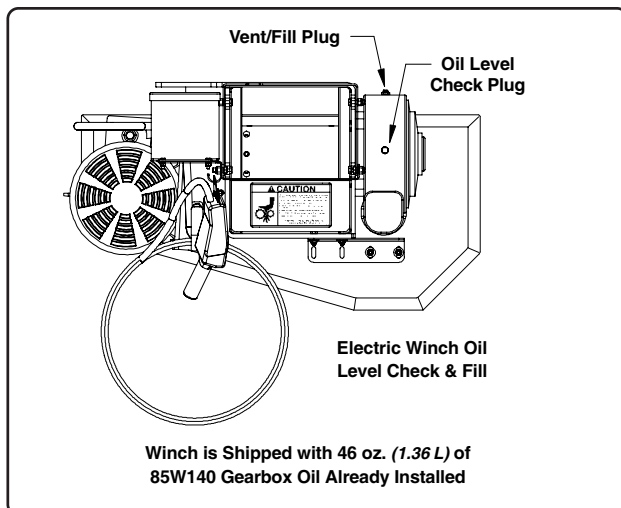

Fig. 11
2. Remove the plug from the side of the gearbox as shown in Fig. 11, oil should begin to leak from the opening. If it does, oil level is sufficient, reinstall plug.